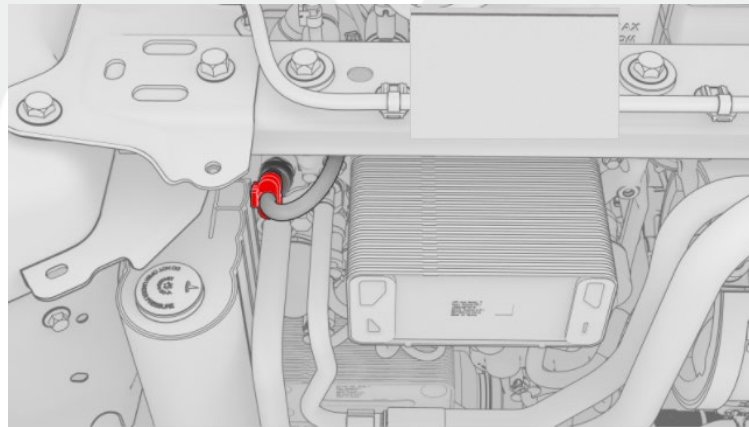

Figure 7
14. Release the locking tab, and then disconnect the electrical harness from the low pressure P/T sensor connector (Figure 7).
- f. Connect the electrical harness to the low pressure P/T sensor connector, and then fasten the locking tab (Figure 7).